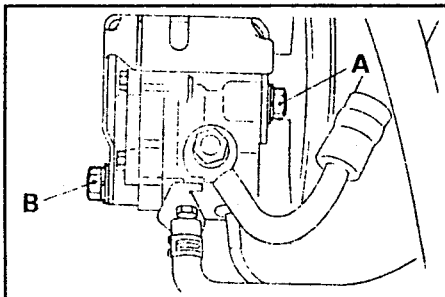

Fig. 12.3. — Bolts A and B secure the steering pump and must be slackened to adjust the drive belt tension on a 1.8 litre (4G93) engine.
- In the case of the 1.8 litre engine refer to Fig. 12.3 and slacken the two bolts "A" and "B" and then move the steering pump as described on the next page.